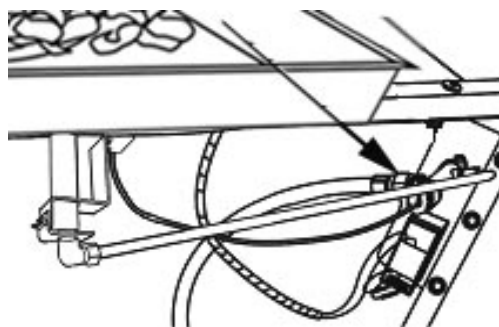

Figure 6
1. Disconnect the gas hose from the gas valve. See Fig. 6.